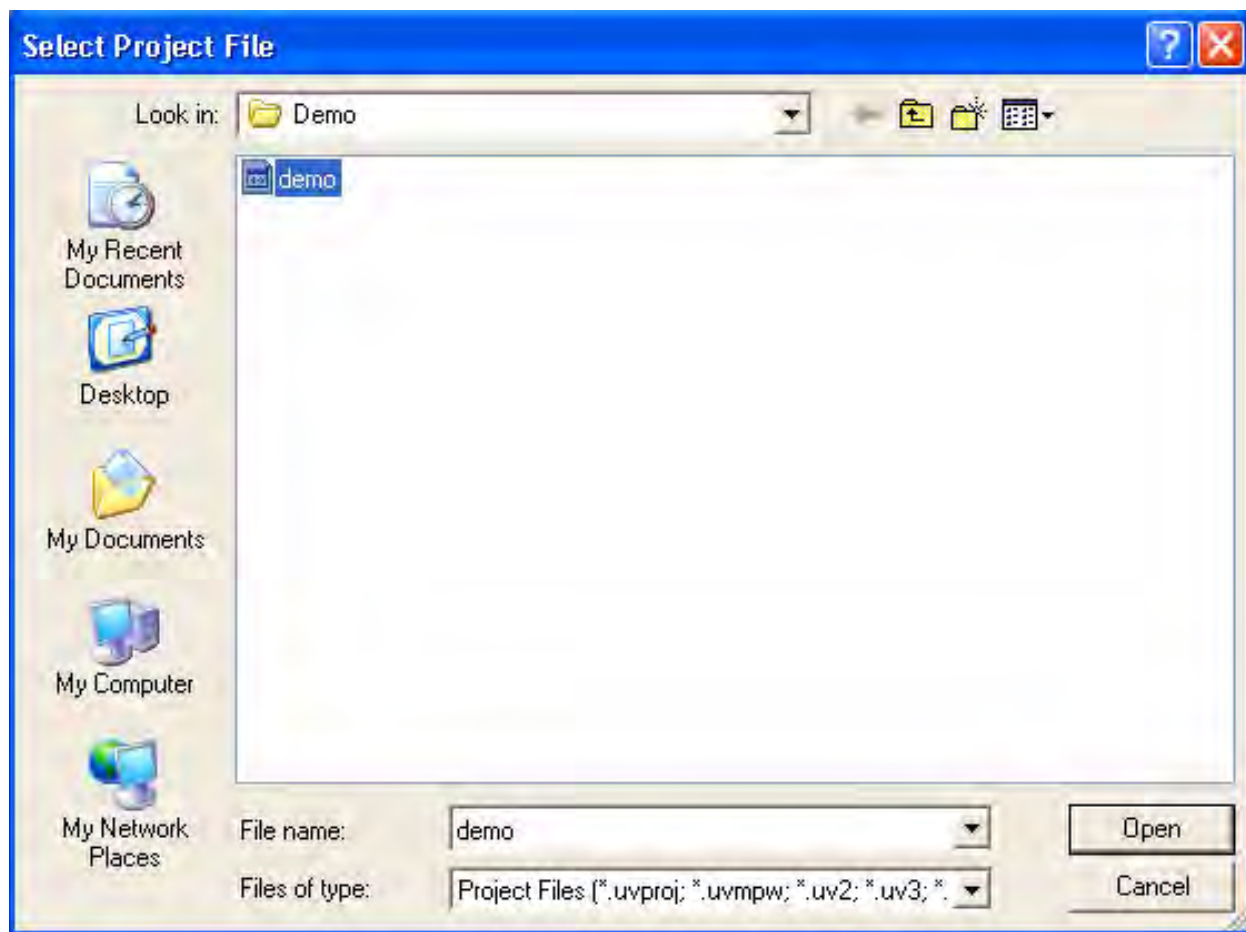

Figure 23. Selecting the Demo Project File
3. Select the Demo.uvproj file and click **Open**; see Figure 23.